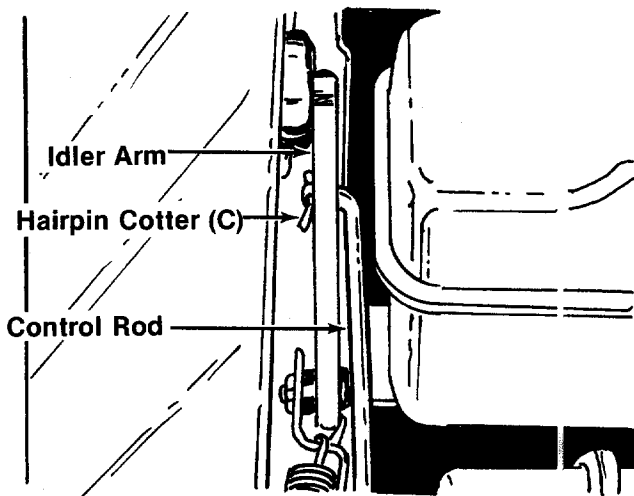

FIGURE 8.
Thread adjustment ferrule (D) on end of control rod. Hook the other end of control rod into the tab on idler arm. Secure with hairpin cotter (C). See figure 8.